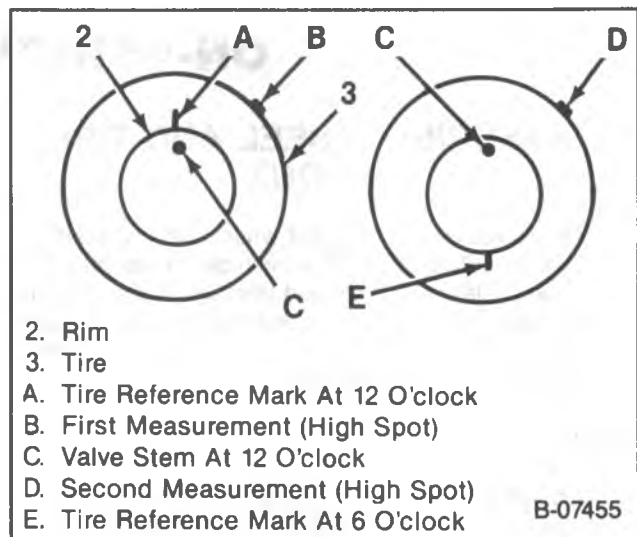

Figure 5 — Checking Tire to Wheel Vectoring
- If the tread is uneven, wrap tape tightly around the tire, record the runout magnitude, and mark the high spot location (figure 5).
5. Break the tire and wheel assembly down on a tire mounting machine and rotate the tire 6 hours (180°) on the rim (figure 5).